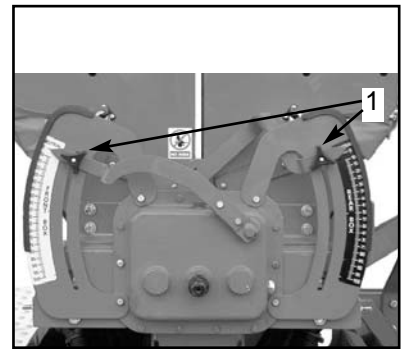

Fig 3
To set the seed rate at the gearbox, slacken the star knob (1) by turning counter-clockwise and push from below into the position indicated in the Sowing Chart. Retighten the star knob firmly (Fig 3).
Using the stepless variable speed gearbox, the speed of the metering shaft and thus the seed rate is set steplessly. The higher the figure indicated on the scale by the setting lever the greater the seed rate (Fig 3).